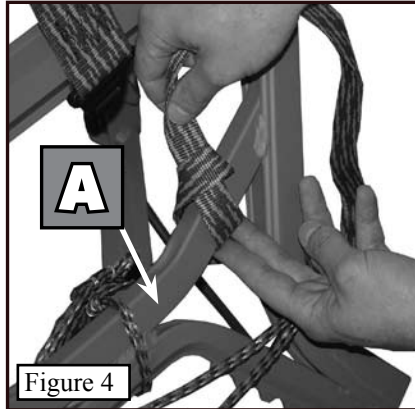

Figure 4
**Step 3.** Place the looped end of the 1" wide strap around the stand tubing (A) and bring the loose end back through the loop as shown in *Figure 4*. Repeat for other side.